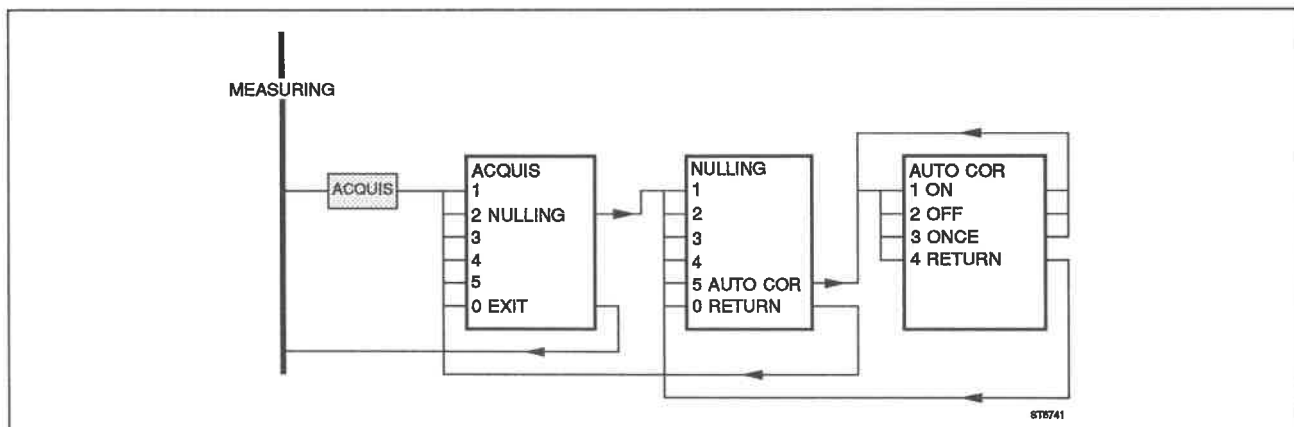

Fig 4.38 Auto correction menu.
- press **ACQUIS** to invoke the ACQUIS menu (Fig 4.38)